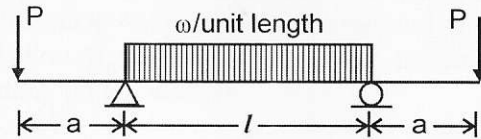

Figure 4
- (d) A simply supported beam with overhanging ends carries transverse loads as shown in the Fig.4. If $\omega l = P$, what is the ratio a/l for which the bending moment at the middle of the beam will be zero?